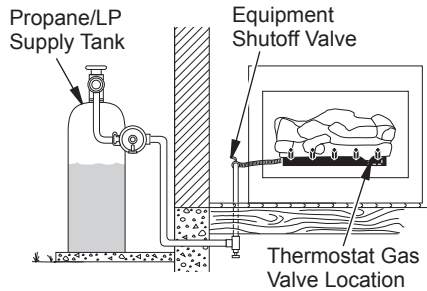

Figure 16 - Checking Gas Joints (Propane/LP Only)
3. Check all joints from gas meter to equipment shutoff valve for natural gas or propane/LP supply to equipment shutoff valve for propane/LP (see Figure 16 or 17). Apply noncorrosive leak detection fluid to all joints. Bubbles forming show a leak.
4. Check all joints from equipment shutoff valve to thermostat gas valve (see Figure 16 or 17). Apply noncorrosive leak detection fluid to all joints. Bubbles forming show a leak.